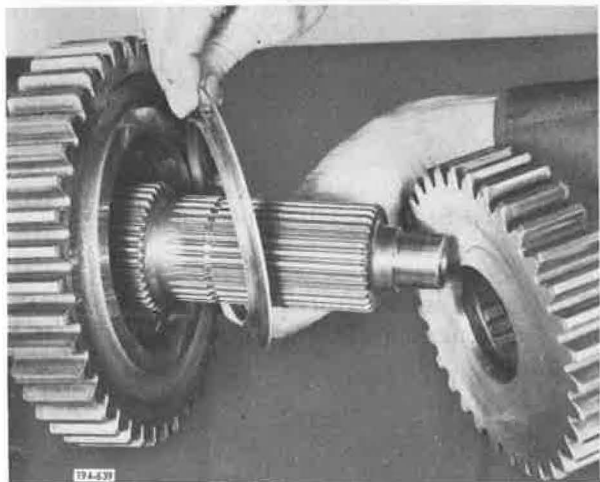

Figure 5-512. Installing Thrust Washer and Gear
15. Install third speed gear flanged thrust washer, and fourth speed gear. See Figure 5-512.